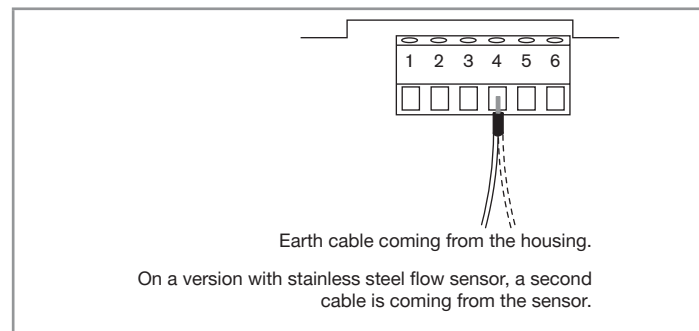

Fig. 15: Connection of the earth wire coming from the housing (made in the factory)
- Make sure the earth cable coming from the housing and, on a version with stainless steel sensor, the cable coming from the flow sensor, are connected as shown in Fig. 15, chapter 7.5.2.
PE: functional earth, wired in the factory (see Fig. 15)